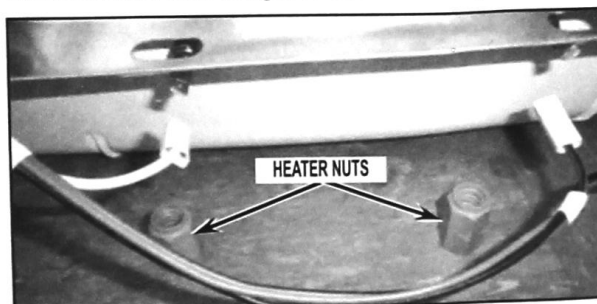

FIGURE 2
8. Remove heater nuts using a $\frac{3}{4}$ " socket. See *Figure 2*.